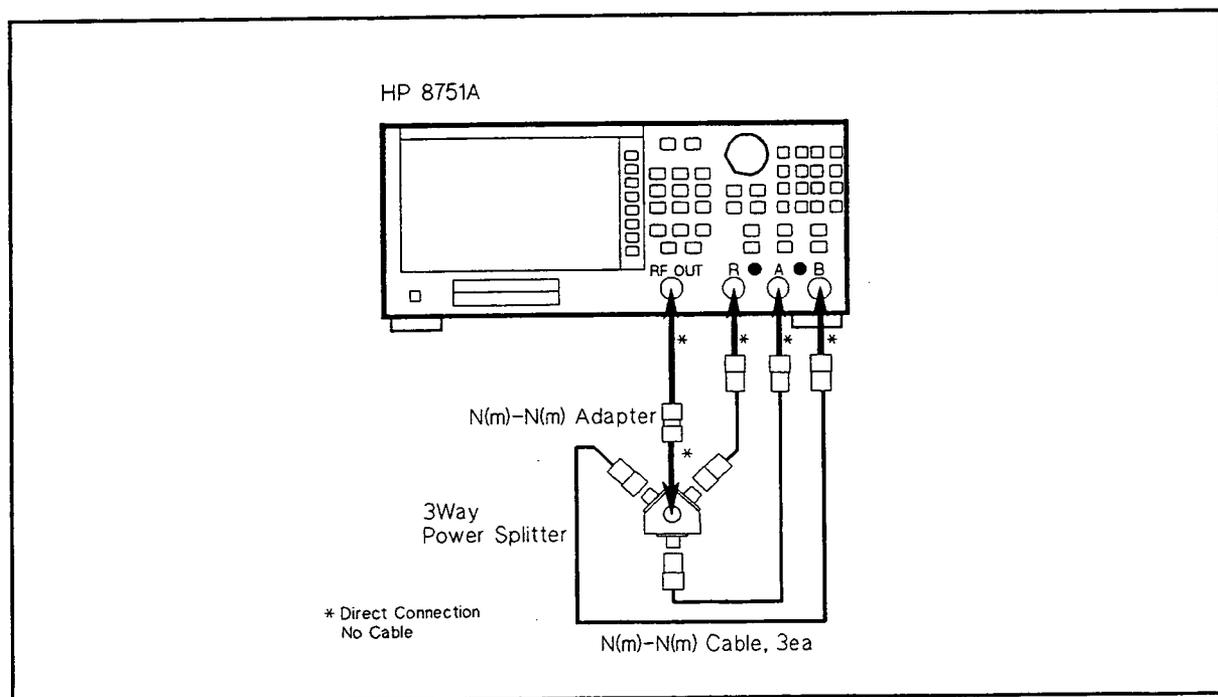

Figure 2-10. Trace Noise Test Setup
1. Connect the cables and the adapter as shown in Figure 2-10.